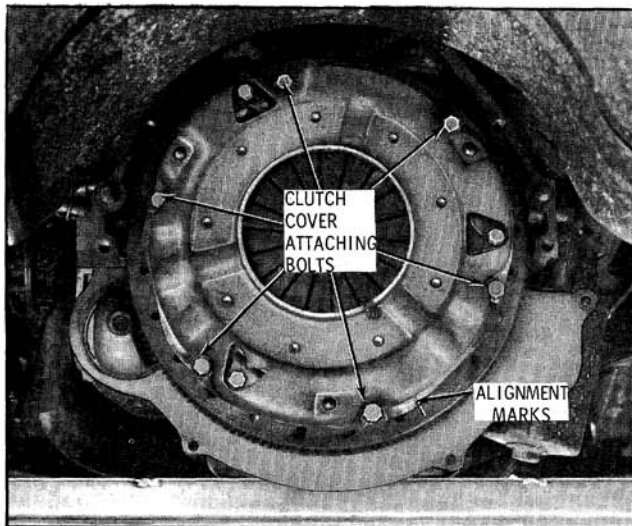

Fig. 7-86 Clutch Cover Alignment
5. Scribe mark the clutch cover assembly to flywheel for correct reassembly. (Fig. 7-86)
attaching bolts and remove clutch cover and clutch disc. (Fig. 7-86)